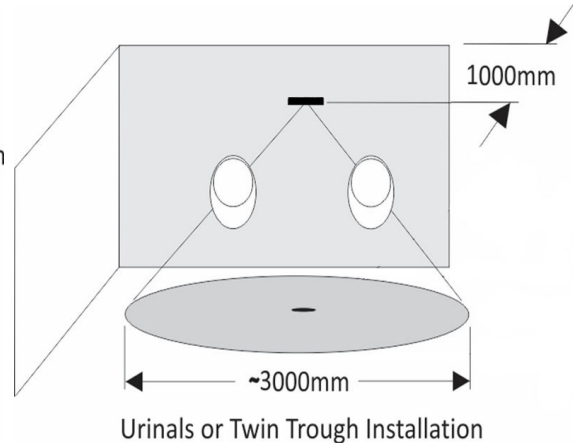
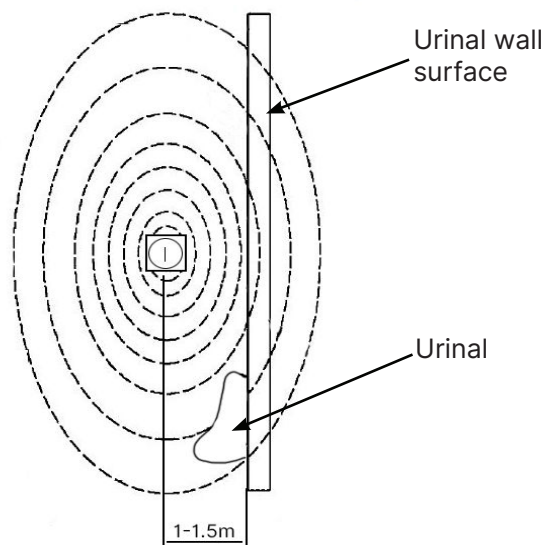

Fig. 5 Multi urinal/trough installation - slot orientation is East/West
Fig. 6 Wall Mounted - note sensor slot (North/South) parallel to urinal
- vi. Open the blind lids on the housing cover and secure to ceiling (or wall) using appropriate fixing for substrate. Take particular note of the sensor slot orientation (Fig. 5 and Fig. 6).
- If mounting on wall, fix to side wall (90° from urinals) and ensure sensor slot is orientated North/South (Fig. 6). It can also be tilted to capture a greater range of heights.